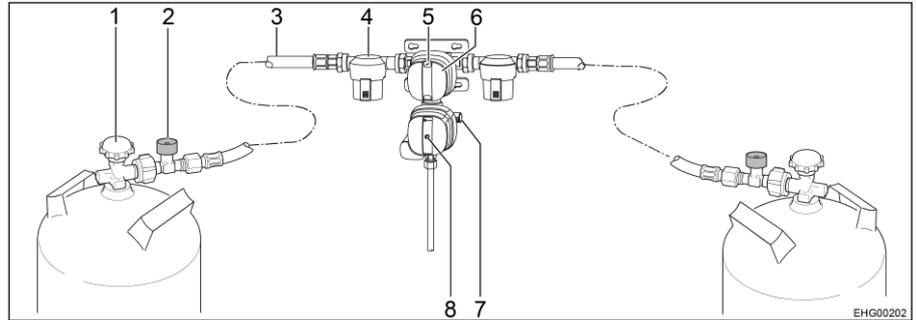
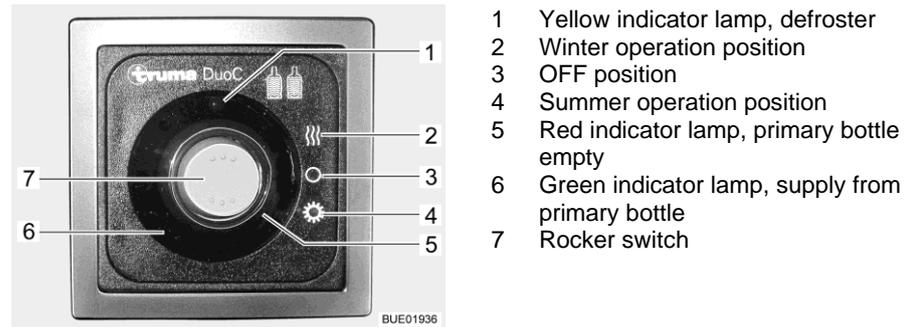

Fig. 94 Safety gas pressure regulating system DuoControl CS
Fig. 95 Operating unit (DuoControl)
The DuoControl regulating system consists of a reversing valve and a crash sensor. The DuoControl regulating system is installed between the high-pressure hoses (Fig. 94,3) with hose break guard (Fig. 94,2). The knob (Fig. 94,6) on the reversing valve is used to select which of the gas bottles is to be used as primary bottle and which is to be used as reserve bottle.
The status of the gas supply is indicated in the inspection window (Fig. 94,5):
The crash sensor blocks the gas supply in the event of a significant impact (e.g. accident). The situation of the yellow reset button (Fig. 94,8) indicates the operating status of the crash sensor:
- If the yellow reset button (Fig. 94,8) is in the pressed-in position, the crash sensor is ready to operate.
- If the yellow reset button (Fig. 94,8) is protruding, the crash sensor is **not** ready to operate. Putting into operation, see below.
The hose break guard (Fig. 94,2) blocks the gas flow if the connected hose breaks. The hose break guard must be activated by pressing the green button.
The operating unit shows the status of the primary bottle. When the green indicator lamp (Fig. 95,6) illuminates, the primary bottle is full. When the red indicator lamp (Fig. 95,5) illuminates, the primary bottle is empty. In this case, the reserve bottle is used for the gas supply.
If the heater of the DuoControl regulating system (defroster) is active, the yellow defroster indicator lamp (Fig. 95,1) is lit.
In addition, the operating unit (Fig. 95) is also used to set summer operation or winter operation.
- Press lower part of the rocker switch (Fig. 95,7) (summer operation position (Fig. 95,4)).
- Press upper part of the rocker switch (Fig. 95,7) (winter operation position (Fig. 95,2)).
- Use the knob (Fig. 94,6) on the reversing valve to select the gas bottle which is to be the primary source of gas (primary bottle). Always turn the knob as far as it will go.
- Open regulator taps (Fig. 94,1) on the gas bottles.
- Press and hold the green button of the hose break guard (Fig. 94,2) for about 5 seconds. The green marking is shown in the inspection window (Fig. 94,5).
- If the crash sensor has triggered (the yellow reset button (Fig. 94,8) is protruding):
Press the yellow reset button (Fig. 94,8) in forcefully, turn it slightly in a clockwise direction and hold it for about 5 seconds. Make sure that the reset button remains in the pressed-in position ("ready for operation"). If it is not possible, reset the system as described: Use the Torx insert T20 on the included screwing aid to strengthen the rotary movement.
- Set the rocker switch (Fig. 95,7) to the OFF position (Fig. 95,3). The indicator lamps go out.
- Close regulator taps (Fig. 94,1) on the gas bottles.
If the green indicator lamp (Fig. 95,6) goes out during operation and the red indicator lamp (Fig. 95,5) lights up, the primary bottle is empty and must be changed. The red marking is shown in the inspection window (Fig. 94,5) of the associated gas bottle. The reserve bottle continues supplying the gas appliances with gas.
- Turn the knob (Fig. 94,6) as far as it will go in the direction of the gas bottle currently used. In this way, this gas bottle is the primary bottle now, and the empty gas bottle becomes the reserve bottle. The marking in the inspection window (Fig. 94,5) changes from red to green.
- Close regulator tap (Fig. 94,1) on the empty gas bottle. Pay attention to the direction of the arrow.
- Press the green button of the hose break guard (Fig. 94,2).